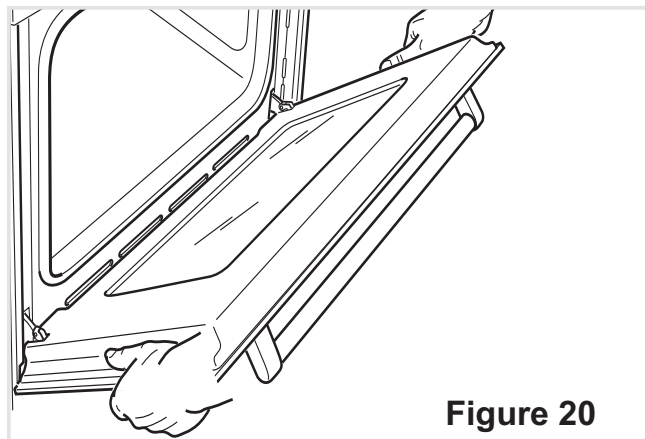

Figure 20
- Hold the door as shown in fig. 20.